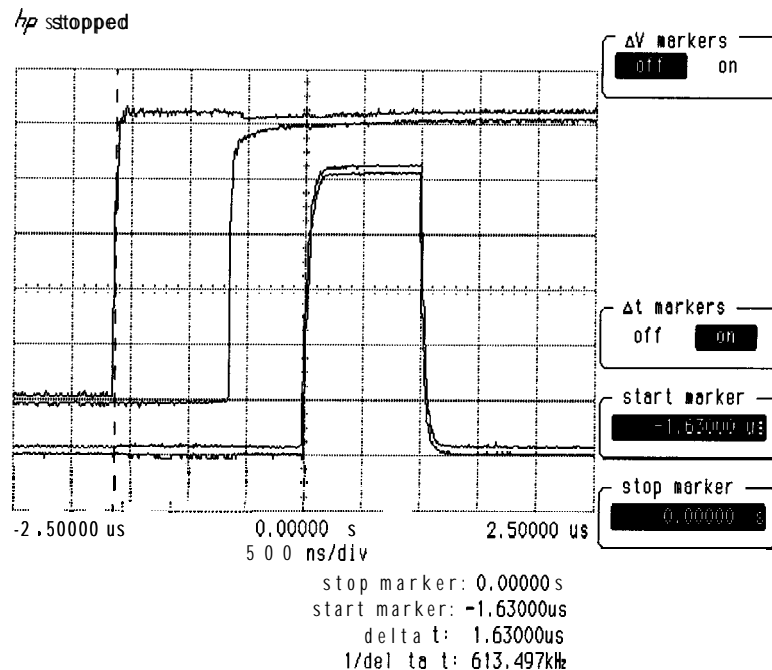

Figure 2-2. Oscilloscope Display of Minimum and Maximum Gate Delay Values
7. On the oscilloscope, press **start** marker. Use the knob to position the start marker on the upper trace on the right side of the oscilloscope display. See Figure 2-2.